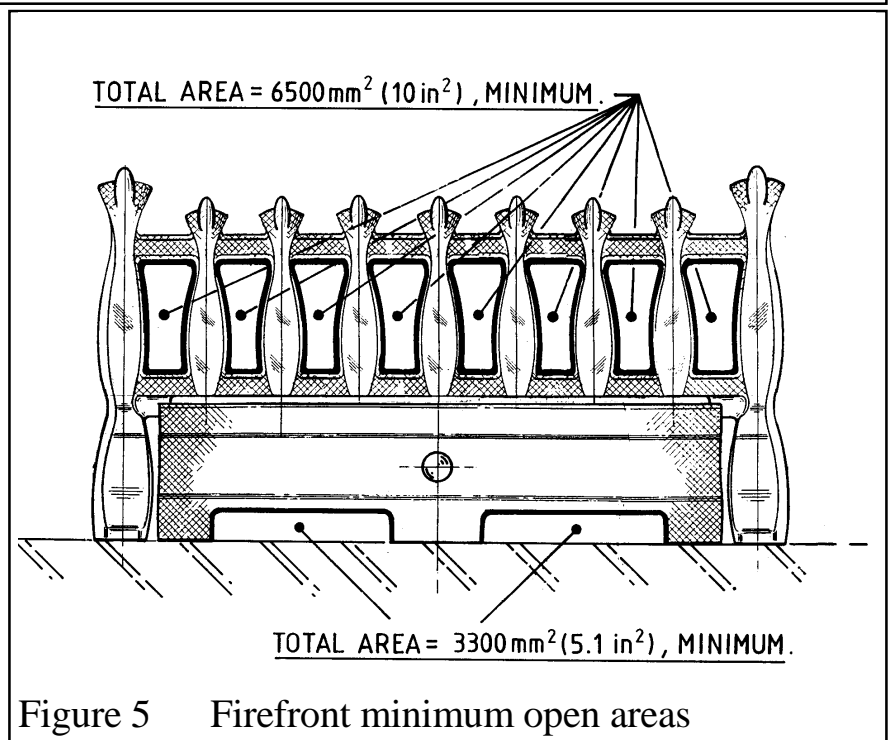

Figure 5 Firefront minimum open areas
2.17 The firefront must have minimum open areas for air flow as shown in figure 5.